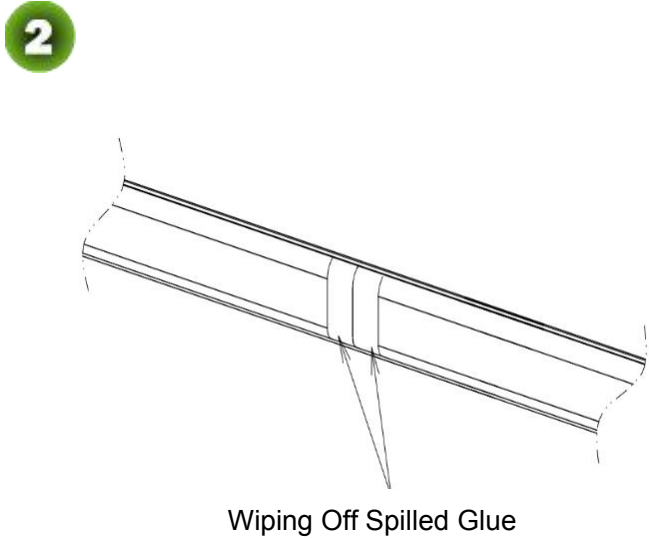

Figure 2-4B Wiping Off Spilled Glue
- 3) Remove the protection cover on the connection part, as shown in Figure 2-4B.